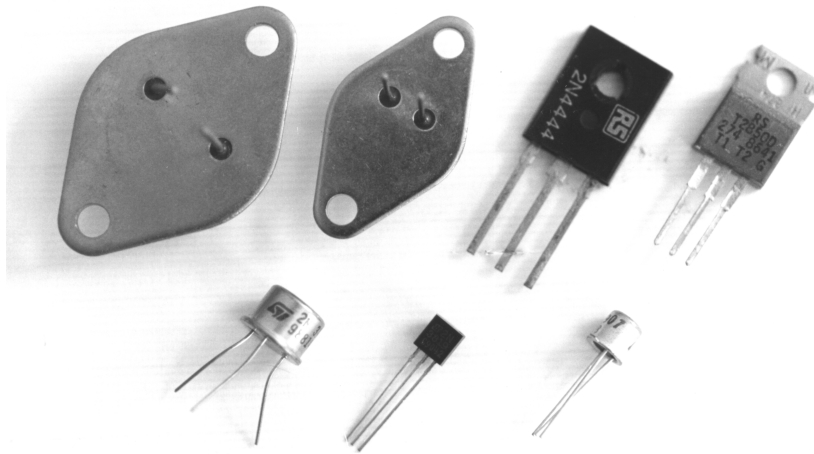

Figure 30.8: Typical transistor packages.
30.6 Figure 30.8 shows a range of transistor package types. Refer to an electronic components catalog and identify the different package type code numbers and also identify the emitter, base and collector leads or connections for each transistor package type.